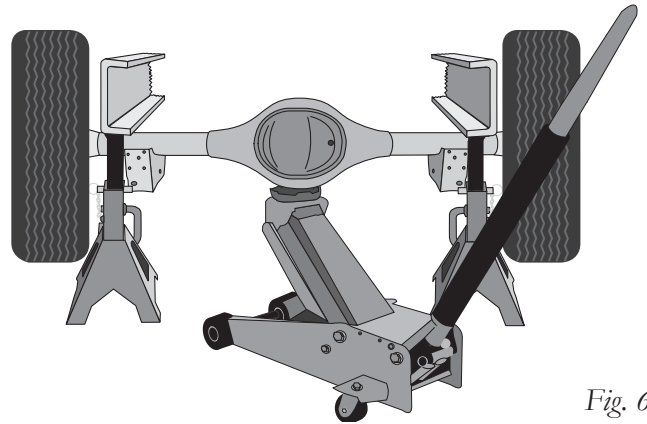

Fig. 6
1. Jack up the front or rear of the vehicle or raise on a hoist. Support the frame or axle with safety stands. Lower the axle or raise the body of the vehicle until the suspension is fully extended (Fig. 6). In some cases, it may be necessary to unbolt the sway bar.